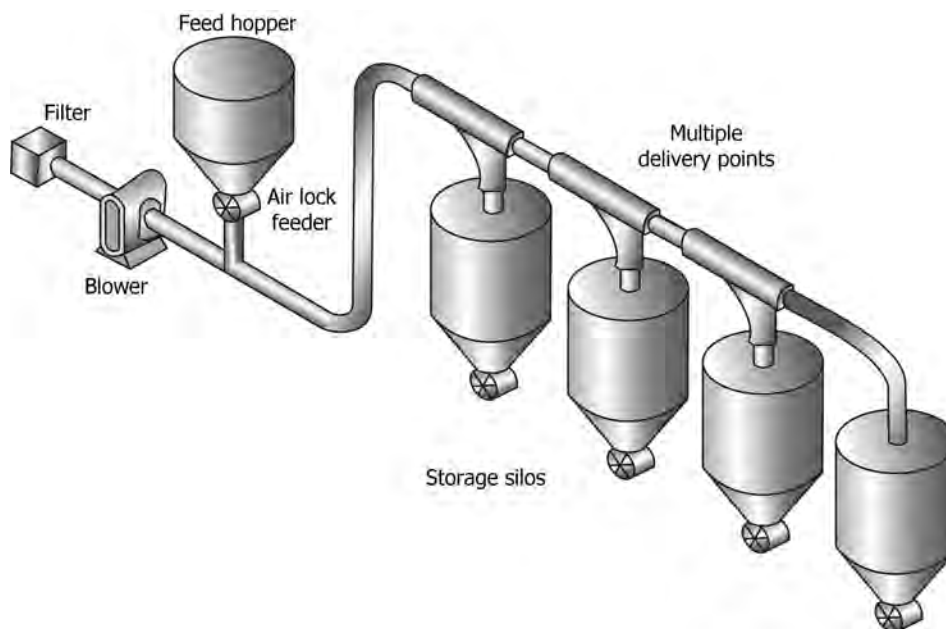

FIGURE 7.15 Pneumatic conveyor: positive system.
- When conveying solids from one pickup point to several discharge points (Figure 7.15).